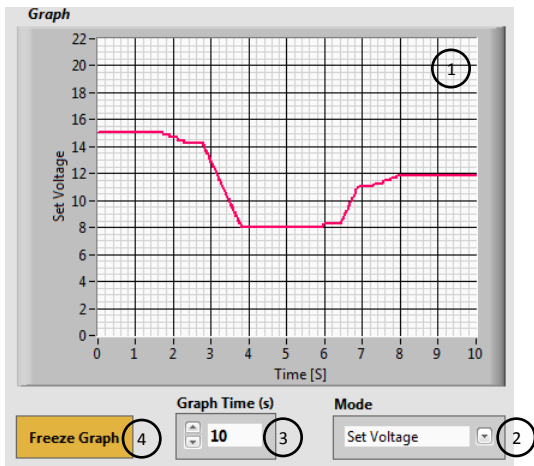
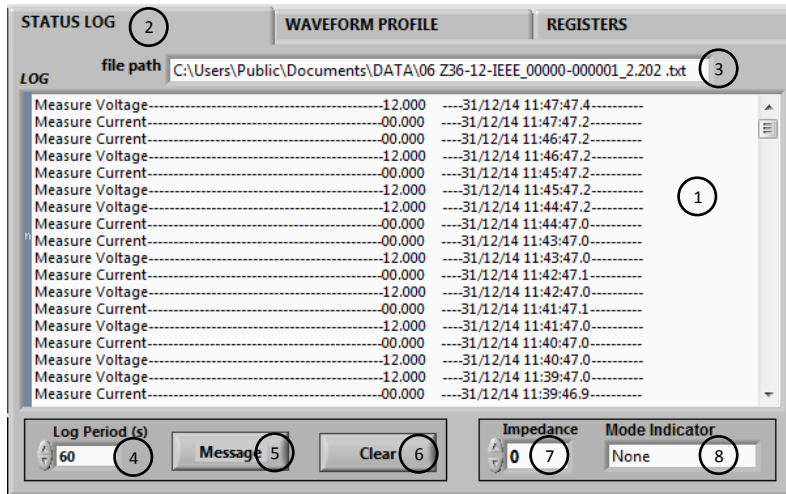

Figure 8
Figure 9 Logger
7. The Graph (1) shows selected voltage or current parameters. The parameter is chosen by using the Mode selector (2). The time period of the graph is set by Graph Time (2) selector. To Freeze Graph press button (4) and read present data. The time accuracy for the graph is 2%. Refer to Figure 8
1. This feature allows logging faults, measured voltage and current data (1) which are defined by time period (“Log Period”) (4). Select STATUS LOG tab (2) to activate the function. Refer to Figure 9
2. The data stored in .txt file. See path (3). The file name includes PSU address and model properties.
3. Set the Message button to the “All Events” (5) state, to allow logging of all setting commands in addition to the messages described above.
4. To clear file data use “Clear” button (6).
5. The application allows logging for more than one unit when the corresponding address is enabled (green button)(up to 31 Z+ supplies). Refer to Figure 8. For STATUS LOG mode only.